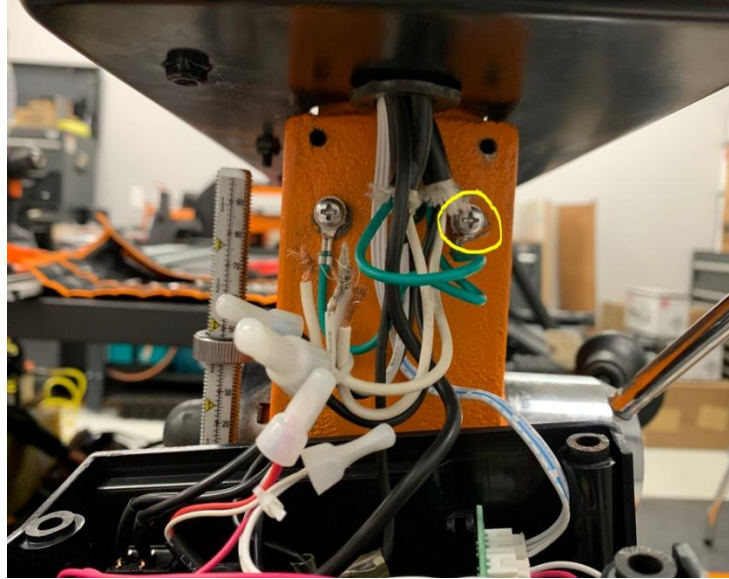

Figure 8. Ground Wire Screw
4. Inside the switch box, you will need to disconnect the motor wires. Start by unscrewing the green ground wire from the body of the drill press, as circled in yellow in Figure 8. Make sure not to lose the ground screw, as you will need to re-attach the ground wire of the new motor to the drill press body.